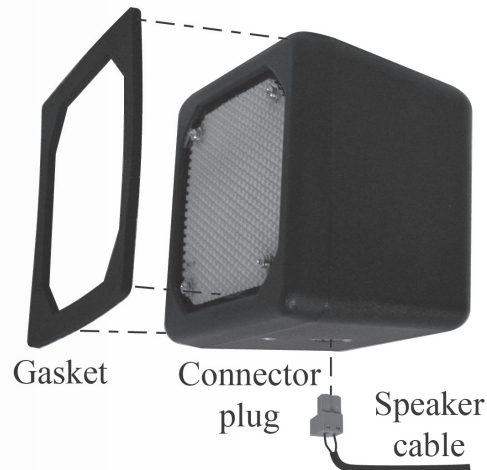

Figure 22. SP10 with gasket and cable connector plug
1. Strip approximately 1 inch (25.4 mm) of insulation from the end of the speaker cable, and ¼ inch (6.35 mm) of insulation from each of the two cable wires, but do not tin the wires. Connect the speaker cable wires to the connector plug as shown in **Figure 22**.
2. Insert the connector plug into the connector on the speaker as shown in **Figure 22**.
1. Remove the double-stick tape liner, and press the adhesive side of the gasket against the front of the speaker in the position shown in **Figure 22**.